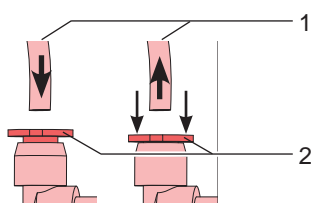

Figure 3 Push (left) and pull (right) of tubes
Pull tubes (1) at pneumatic connectors only if the releasing ring (2) pressed. (Figure 3 right).